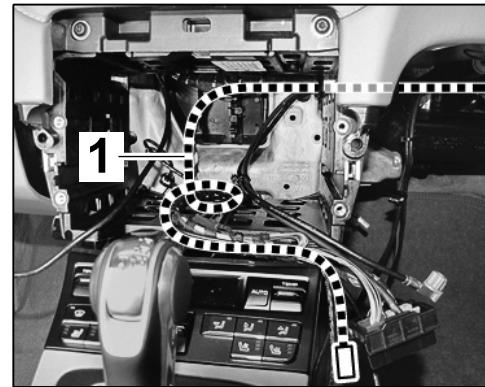

Figure 7
2.3.3 Route GPS antenna line \Rightarrow Figure 7